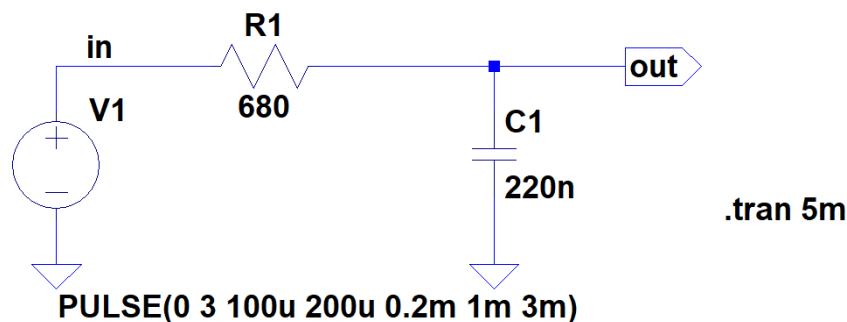

Fig. 1. Diagram of the tested RC circuit.
1. Create a circuit diagram as shown in Fig. 1. Use shortcut keys: